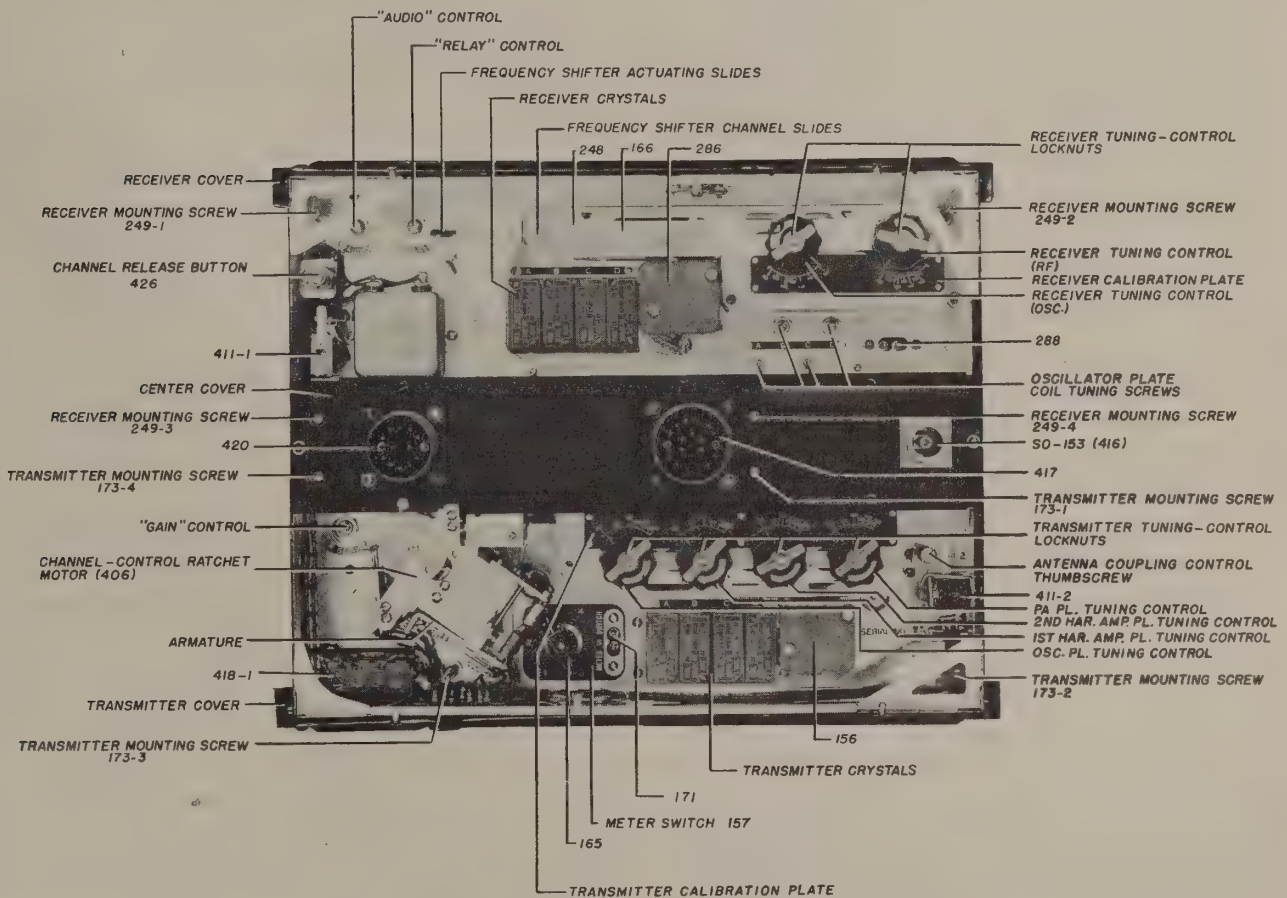

FIGURE 10—RADIO SET SCR-522-A, TRANSMITTER-RECEIVER ASSEMBLY
**NOTE:** When using Test Equipment IE-19-A for aligning the channels of Radio Set SCR-522-A, the radio set should be installed in the aircraft and connected for operation by means of Radio Control Box BC-602-A. Refer to Figure 10 for location of the tuning and adjustment controls on the transmitter, receiver, and rack of Radio Set SCR-522-A.
the crystal sockets. Plug the cord of Test Set I-139-A into the two-prong transmitter test-milliammeter socket 171 located on the right side of the transmitter "METER SWITCH" (see FIGURE 10).
(e) If the test set reading is more than 0.63, slide the antenna-coupling control (see FIGURE 10) to the right until the reading is less than 0.63.
(1) Test Equipment IE-19-A and a headset or an output meter are required for receiver tuning. Refer to FIGURE 10 for location of tuning and adjustment controls of Radio Set SCR-522-A.
(2) A receiver crystal is identified by the fundamental frequency (kc) which appears on the crystal nameplate.
(b) Connect Cord CD-477 to the "R.F. OUTPUT" socket on the signal generator and to the antenna socket, Socket SO-153, on Rack FT-244-A (see FIGURE 10). Connect Test Set I-139-A to the signal generator "METER" socket.